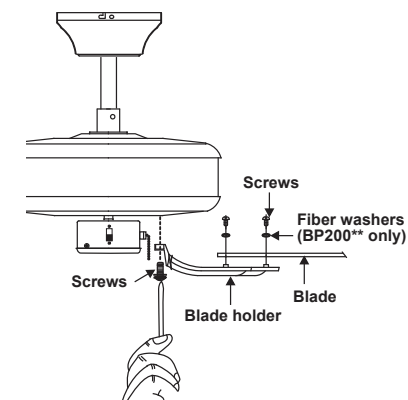

Figure 19
Step 1 Attach the blade to the blade holder using the screws and fiber washers (BP200** only) as shown in Figure 19. Start screw into blade holder. Repeat for the two remaining screws.
Step 3 Fasten blade assembly to motor using the screws supplied. (Fig. 19)